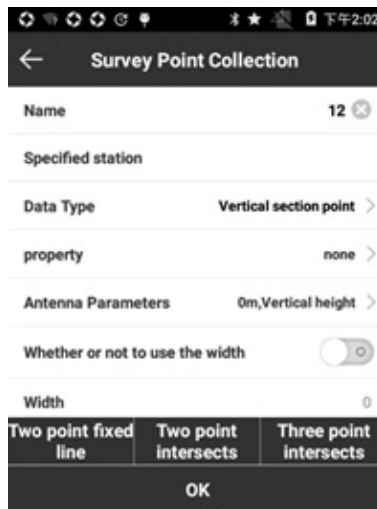

Figure 5.16-5
-  collect TOPO point. Its interface is shown in Figure 5.16-5.